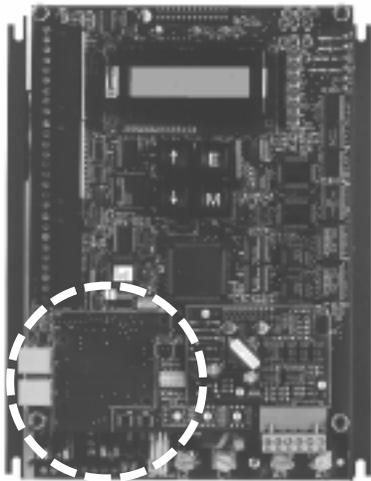

Figure 3.7 - Feedback Receiver Card Mounting Location
The drive is shipped to run in armature voltage feedback which requires no receiver card. The drive senses armature voltage from the drive output so no additional external connections are required. Each of the other speed feedback devices requires a receiver card, which are ordered separately. Each card mounts on the lower left portion of the control board of the drive (see Figure 3.7) and receives the speed signal from the feedback device. The part numbers for each type of card are listed below. Appendix A contains technical information on each feedback card.
2. Align the 10 pin connector on the option board with the controller pins on the lower left of the control board, as shown in Figure 3.7.